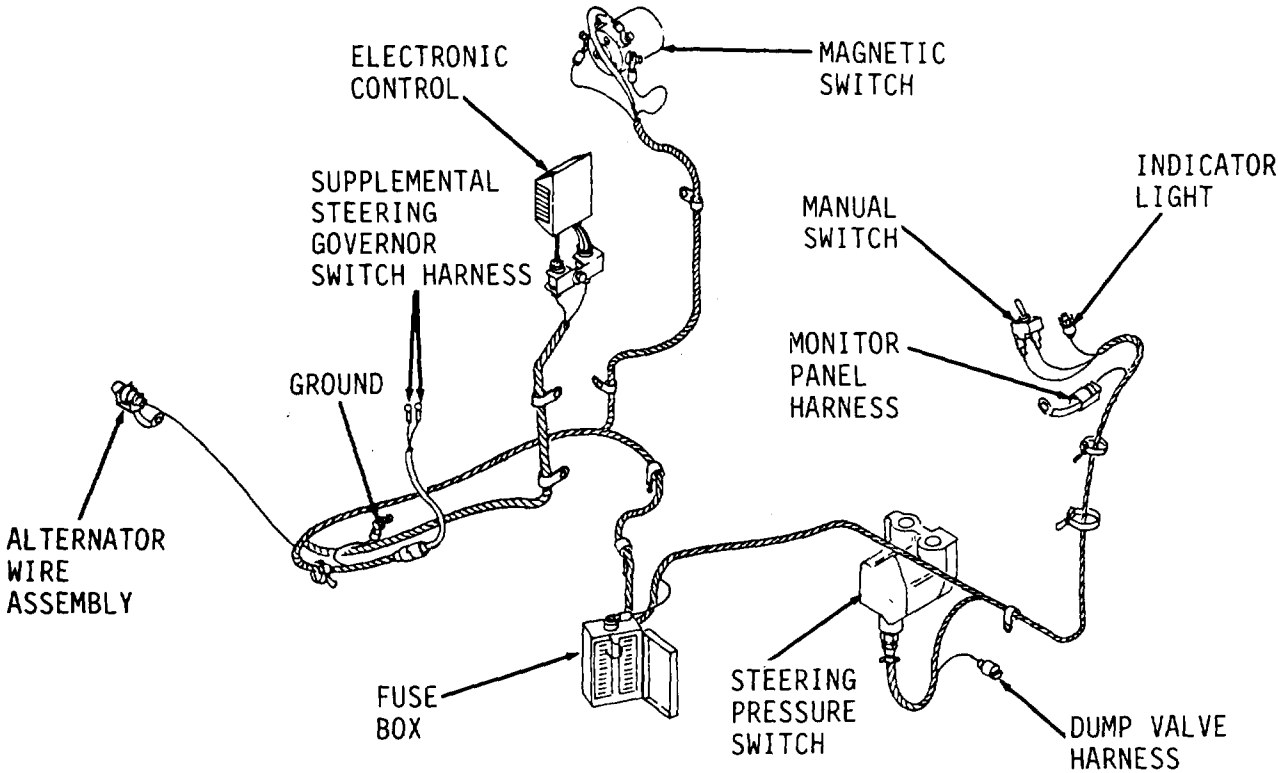

Figure 4-92.
- 1. Disconnect supplemental steering main harness assembly from monitoring system panel, fuse box, electronic control, indicator light, switches, wire assemblies and harnesses (Figure 4-92).